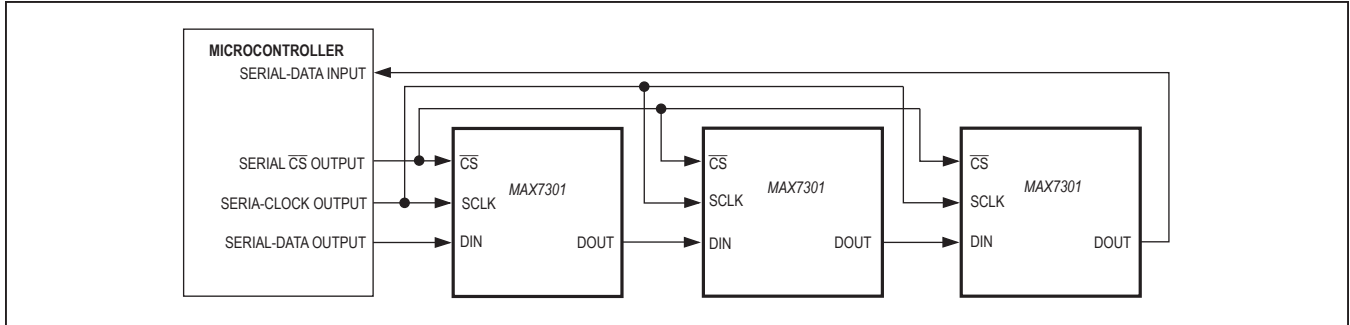

Figure 3. Daisy-Chain Arrangement for Controlling Multiple MAX7301s
**Timing Characteristics (Figure 3)**(V+ = 2.5V to 5.5V, TA = TMIN to TMAX, unless otherwise noted.) (Note 1)
Multiple MAX7301s may be daisy-chained by connecting the DOUT of one device to the DIN of the next, and driving SCLK and  $\overline{CS}$  lines in parallel (Figure 3). Data at DIN propagates through the internal shift registers and appears at DOUT 15.5 clock cycles later, clocked out on the falling edge of SCLK. When sending commands to multiple MAX7301s, all devices are accessed at the same time. An access requires (16 × n) clock cycles, where n is the number of MAX7301s connected together. To update just one device in a daisy-chain, the user can send the No-Op command (0x00) to the others.